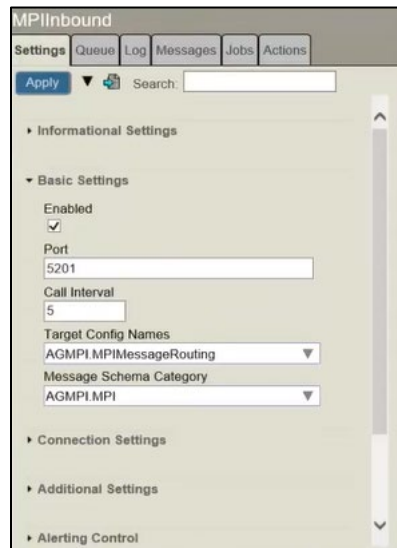

Figure 4-2: MPIInbound production configuration
- a. Click on **MPIInbound**. The dialogue box at the right opens (Figure 4-2).